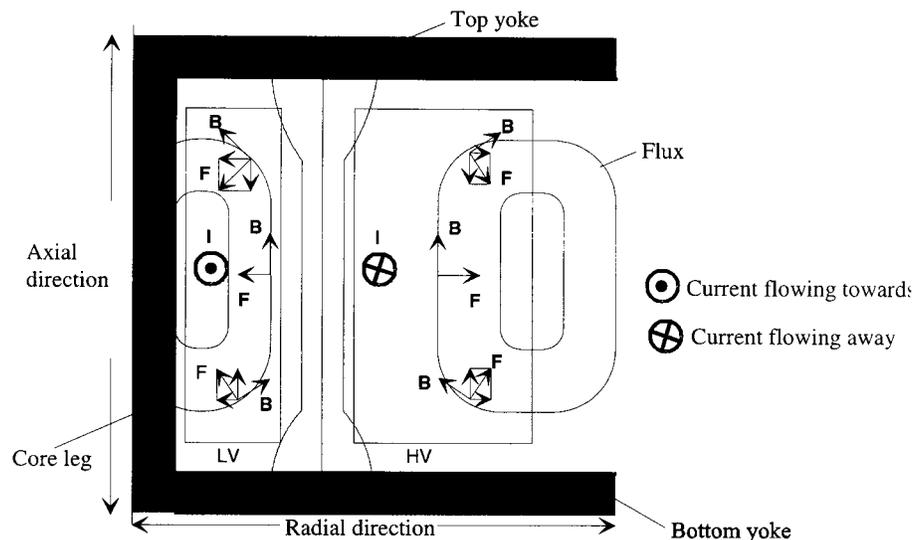
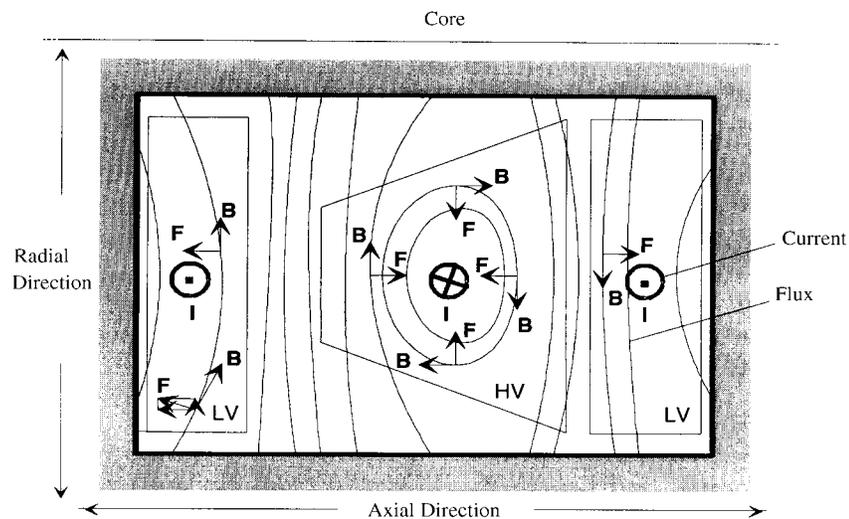

Figure 2.2 Generated Forces in a Core Form Transformer
Figure 2.3 *Generated Forces in a Shell Form Transformer*
The current flowing in transformer winding conductors sets up an electromagnetic field in and around the windings, as shown in the simplified sketches of Figure 2.2 and Figure 2.3. Any current-carrying conductor (I) which is linked by this field (B) experiences a mechanical force (F) which is perpendicular to the direction of the current and the field.
In a core form transformer, the forces act radially outward on the outer winding and radially inward on the inner winding, but because of the radial fringing at the ends of the windings, there are also axial force components which tend to compress the windings (Figure 2.2).
Whereas the principal forces in the core form design were radially directed, the principal forces in the shell form are axially directed (Figure 2.3). They tend to separate the low-voltage winding from the high-voltage winding, which pushes the low-voltage winding against the core. The high-voltage winding is being crushed inward upon itself. There are modest radial force components as well. These tend to compress the pancake winding sections radially.